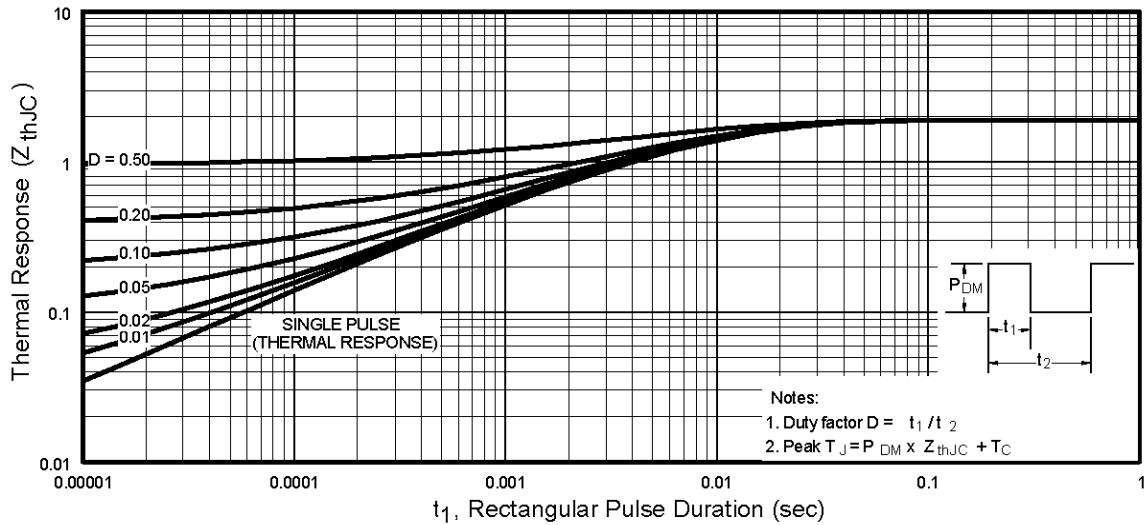

Fig 11. Maximum Effective Transient Thermal Impedance, Junction-to-Case
- ① Repetitive rating; pulse width limited by max. junction temperature. (See fig. 11)
- ② Starting $T_J = 25^\circ\text{C}, L = 3.7mH$